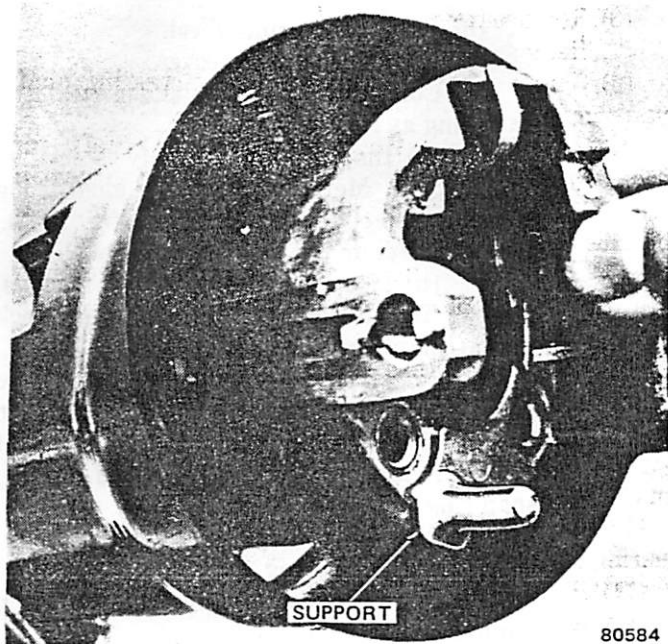

Fig. 2J-63 Support Installation
- (9) Install steering shaft in column (fig. 2J-58).
- (10) Install replacement bearings in housing, if removed. Be sure to lubricate bearings with chassis grease before installation.
- (11) Install lock shoes, lock shoe springs, and lock shoe pin in housing. Use 0.180-inch (4.5 mm) diameter rod to align lock shoes and pin during installation.